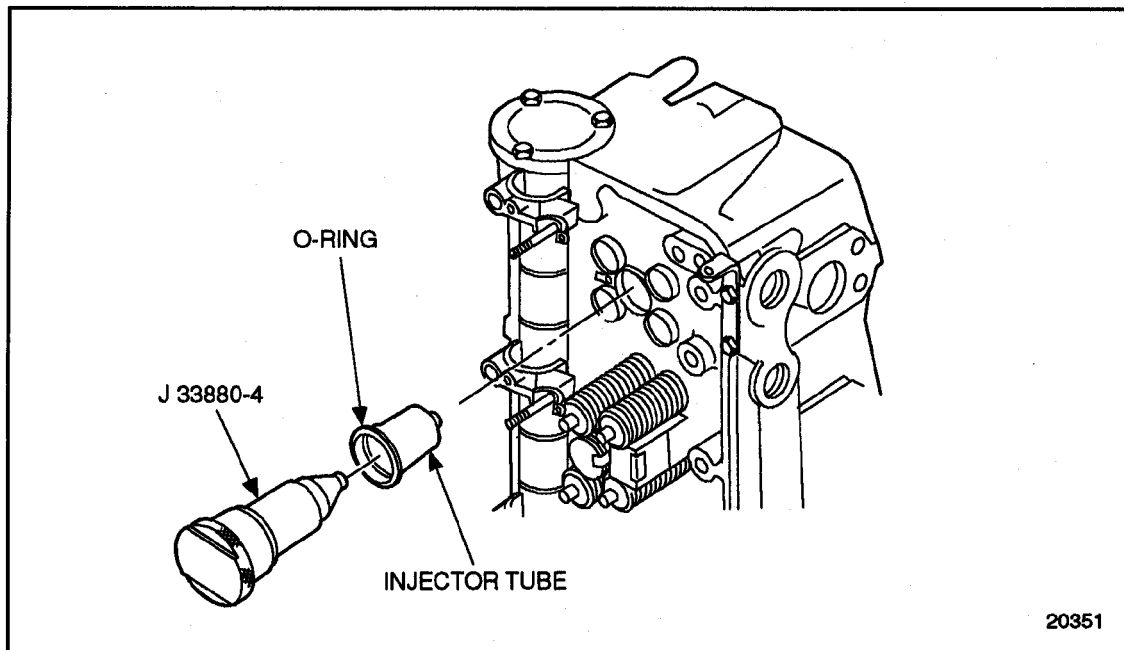

Figure 2-16 Installing O-ring and Injector Tube
1. Place the O-ring over the injector tube, sliding it up to the lip. See Figure 2-16.
2. Install the injector tube on J 33880-4. See Figure 2-16.